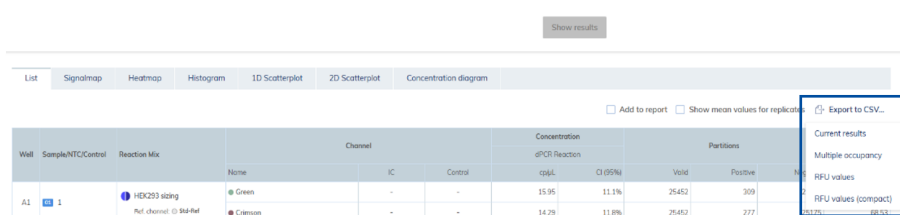

Figure 2. Exporting the data as a CSV file.
3. In the List tab, export the results by selecting **Export to CSV...**, and then **Current results** (Figure 2).